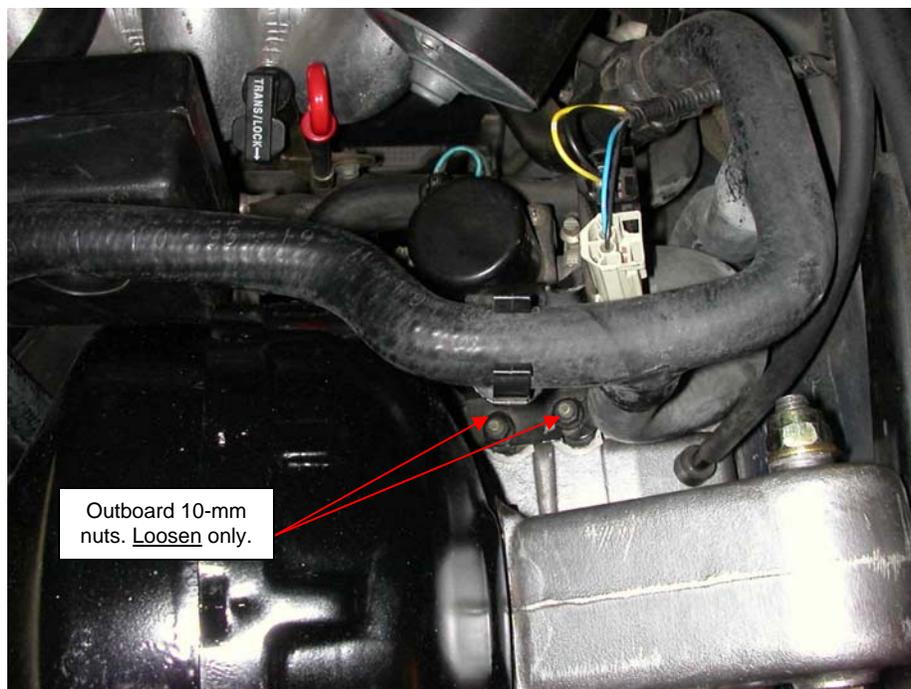

Fig. 15
14. Loosen the two outboard, 10-mm nuts securing the heater flow-control valve to the rubber mounts attached to the pedal assembly (Fig. 15).